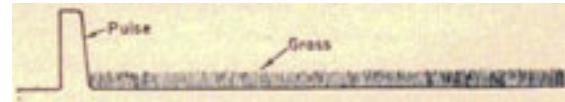

Figure 4 SF-7. Normal grass height.
3. Push in the 10-tuning (20) knob to engage clutch drive and turn it slowly back and forth, at the same time watching for a cluster of pips to rise up at the left end of the sweep. These pips are echoes from waves near the ship, and are known as sea-return (see fig. 4 SF-8). Adjust the lo-tuning (20) until they rise to maximum height. If there are two or more settings